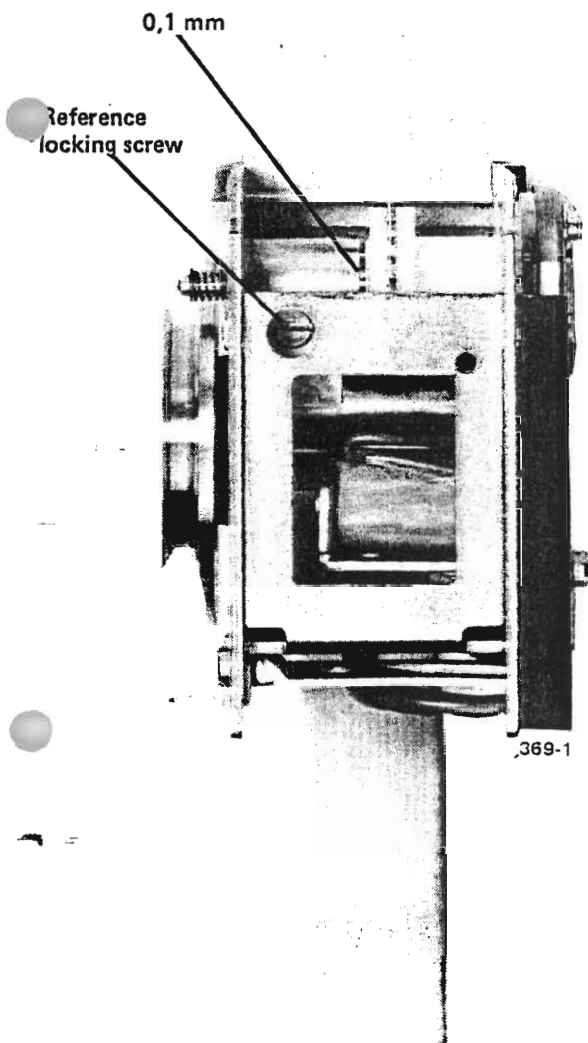

Fig. 6.9 Adjustments
- c) Loosen the reference locking screw (Fig. 6.9).
- The distance from the reference edge of the tape to the center of the feed hole should be  $9.96 \text{ mm} \pm 0.1 \text{ mm}$  (for TTS, JIS:  $11.2 \text{ mm} \pm 0.1 \text{ mm}$ ). If not, loosen the reference locking screw (Fig. 6.9) and insert a 1.5 mm allen wrench into the adjustment hole.
- Tighten the reference locking screw (Fig. 6.9).